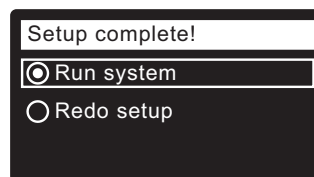

FIG. 23
20. Press the SELECT (O) button. The screen will show "Setup complete!" (See Figure 23).
21. If, at this point, you want to go back and make changes, press the DOWN (▼) button to scroll to **Redo setup**, then press the SELECT (O) button twice to repeat the "wizard" screens.
22. If no changes are desired, make sure **Run system** has a dot next to it (See Figure 23) and press the SELECT (O) button. The unit begins normal operation, described on Page 16.